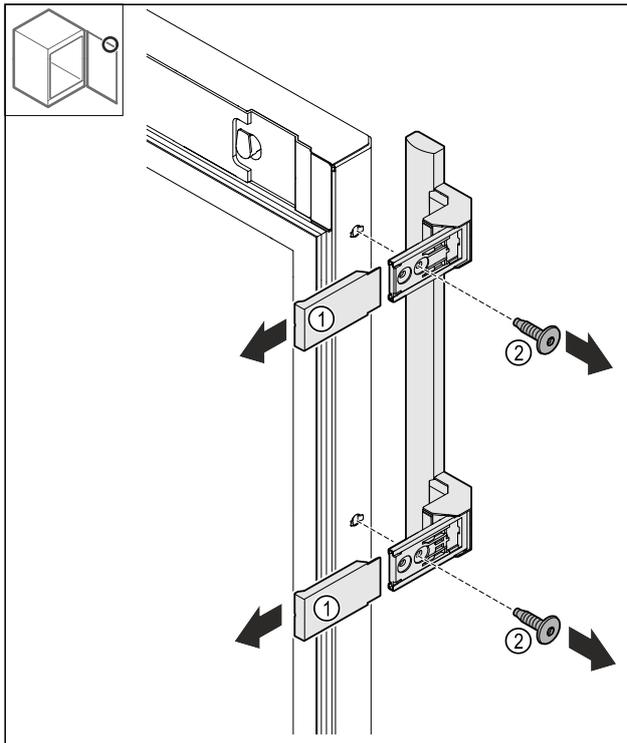

Fig. 19
- ▶ Remove the covers Fig. 19 (1).
- ▶ Loosen the screws Fig. 19 (2).